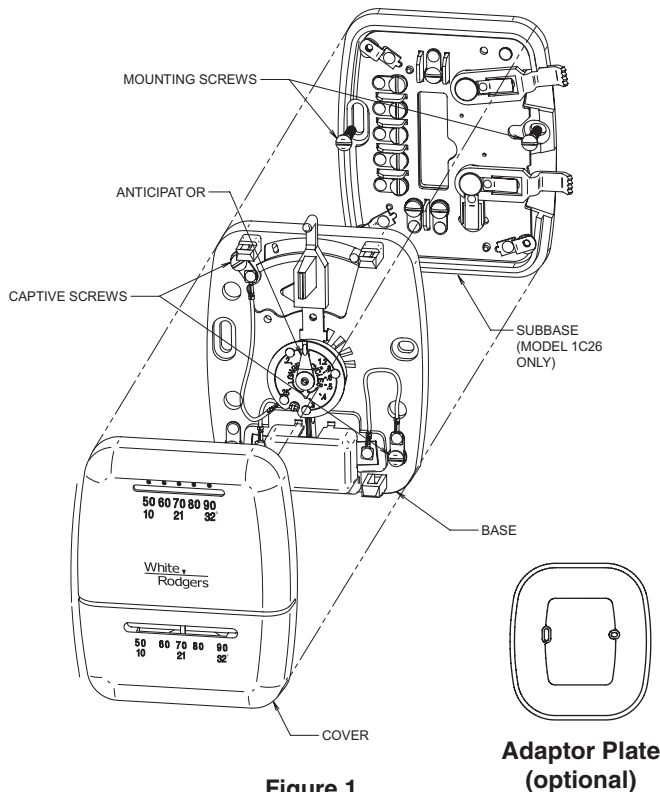

Figure 1.
- A. **Mount base and adaptor plate:** Mount base and adaptor plate (optional) to wall using screws provided (see Fig. 1).
- B. **Mount switching subbase/adaptor plate:** Use the screws provided to mount the subbase and adaptor plate (optional) to wall (see Fig. 1).
- D. **Mount Thermostat Base:** Gently push excess wire back into the wall opening and plug hole with a fire-resistant material, such as fiberglass insulation to prevent drafts from affecting thermostat operation. Mount the thermostat base to the sub-base using the three captive screws on the thermostat base. (See Fig. 1) Tighten the screws securely. Remove paper tag from plastic contact cover. Proceed to Step #5.